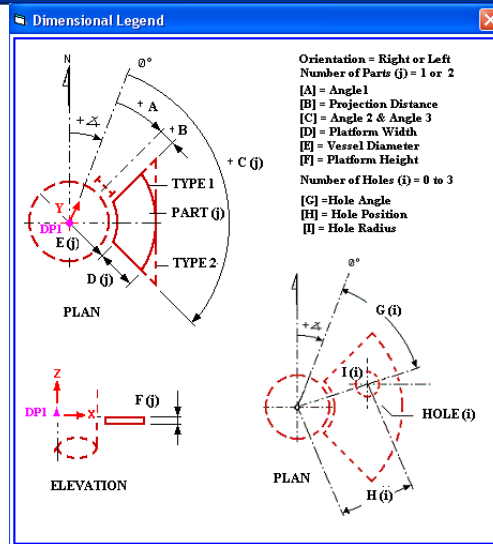

Figure 22: Preview Picture for the Vessel Platform
- Click the **Preview** button in the **Equipment Component Properties** page to see a picture of the equipment component geometry shown in Figure 22.